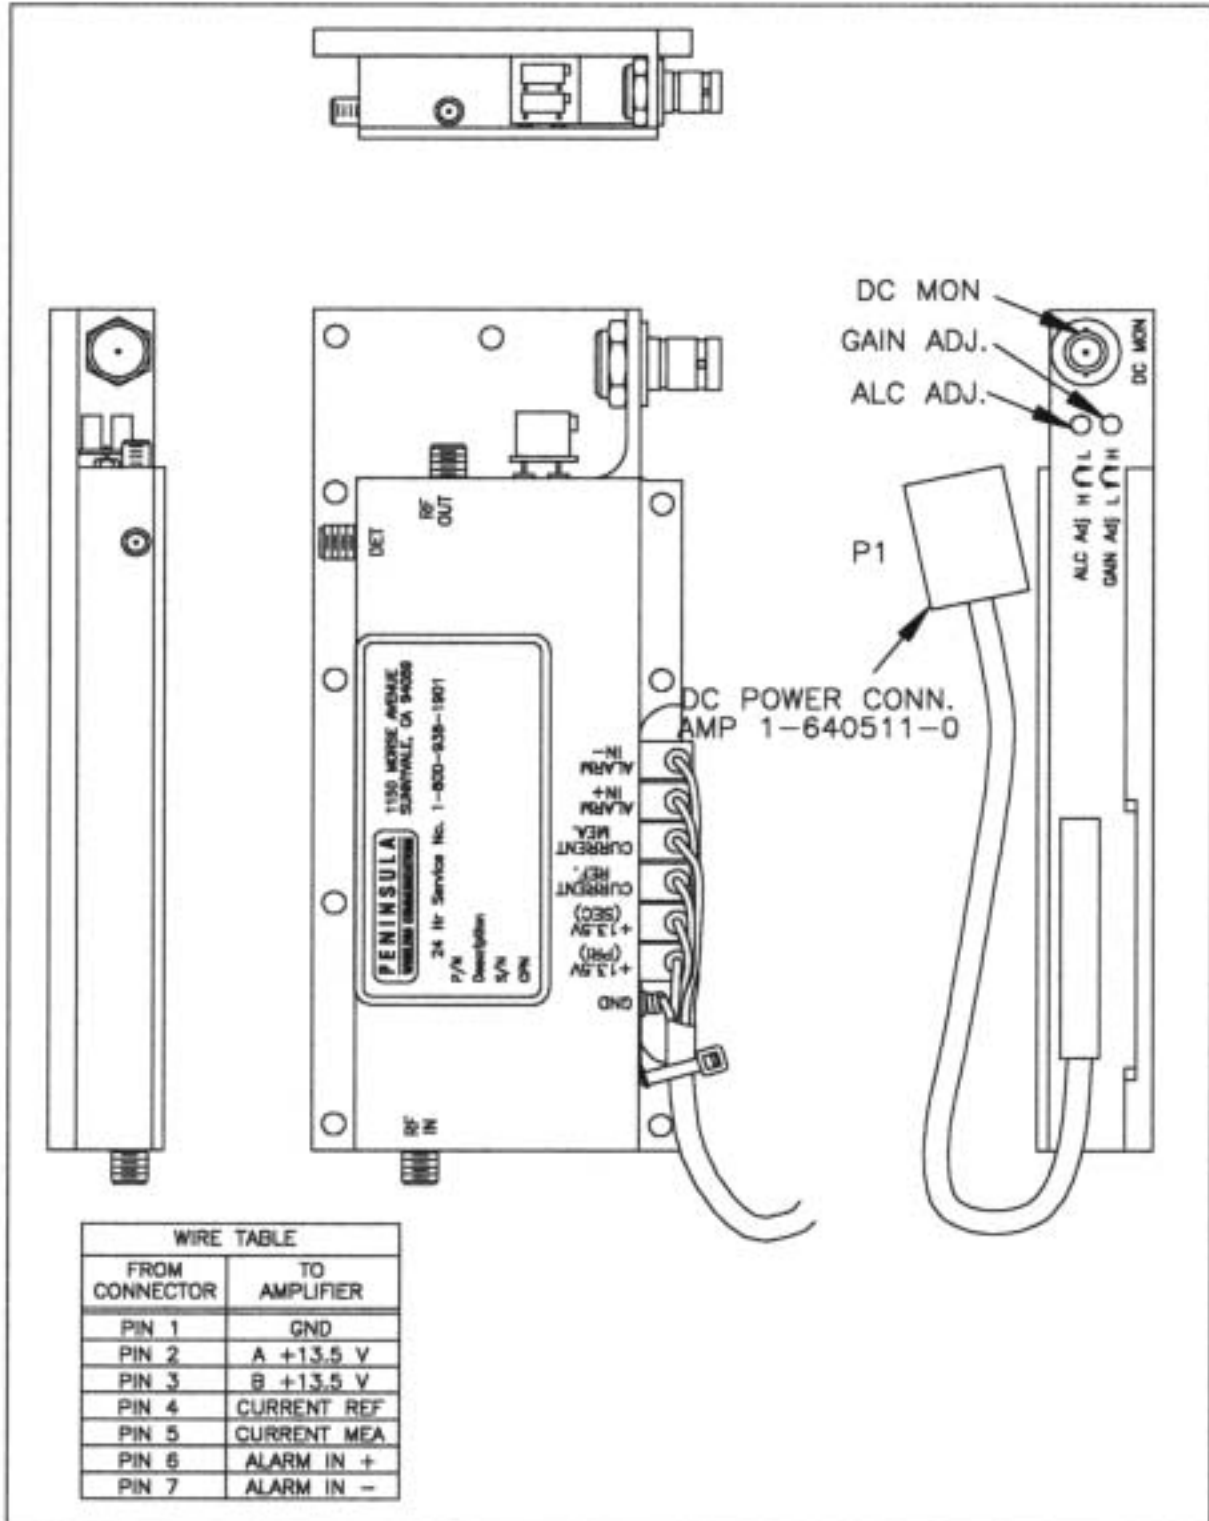

Figure 1.5 Amplifier
• Directional couplers built into the amplifiers provide signal monitor points (see Figure 1.5), and allow in-service measurement of transmit output power. The monitor points are calibrated for calculating the actual RF output power at the antenna flange. When power is measured at the PWR MON port of the amplifier, the power meter reading obtained, plus the loss (in dB) marked at the amplifier monitor point, minus the branching loss (in dB) marked on the panel, equals actual transmit output power.
• There is a field-adjustable potentiometer on the amplifier (see Figure 1.5). The Repeater output level and nominal gain is adjusted by the AGC/ALC potentiometer.